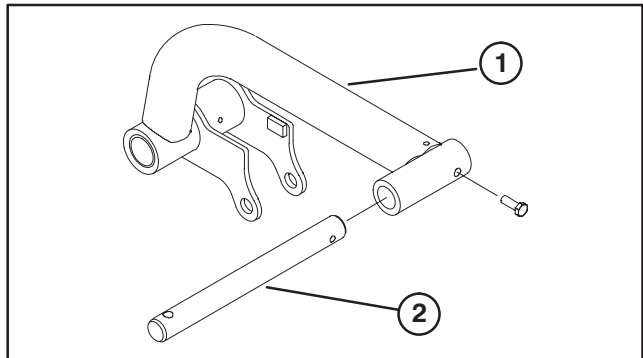

Figure 13
2. Insert a pivot rod into each (R.H. & L.H.) lift arm and align mounting holes (Fig. 13).